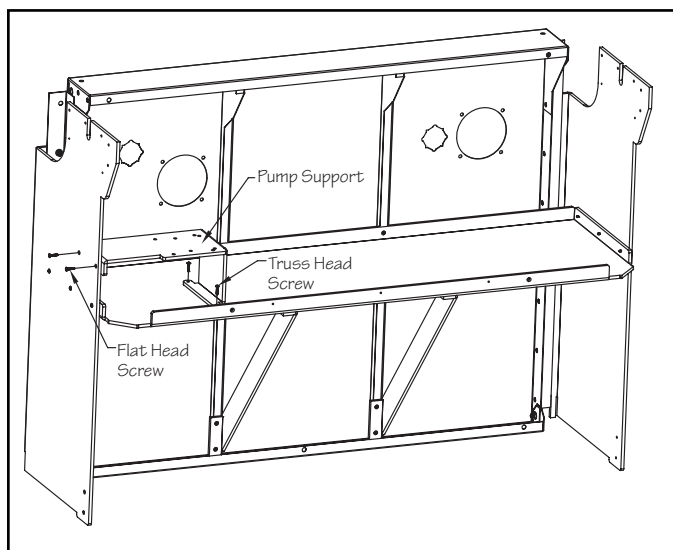

Fig. 10
Attach the pump support to the vertical support and equipment tray. Use the (2) 1" (25mm) flat head screws to attach the pump support to the vertical support and the (2) 1" (25mm) truss head screws to attach the pump support to the equipment tray located in the pump support hardware bag. Fig. 10.